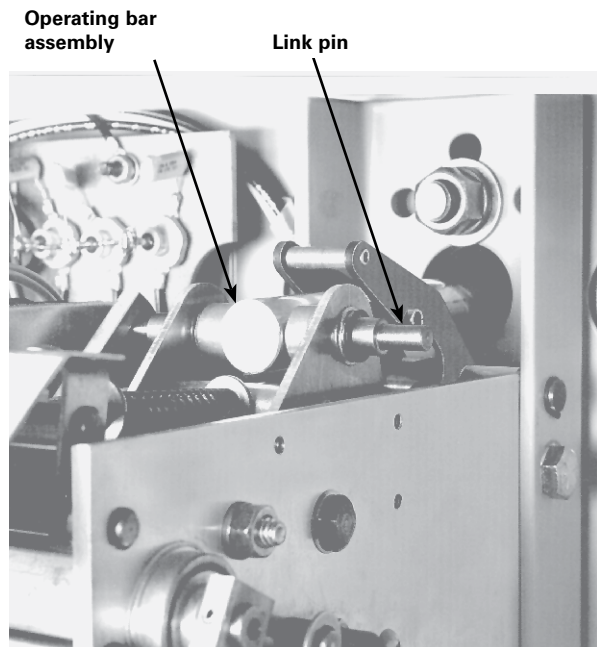

Figure 11. Location of link pin
5. Remove link pin that attaches operating mechanism to operating bar assembly, Figure 11.